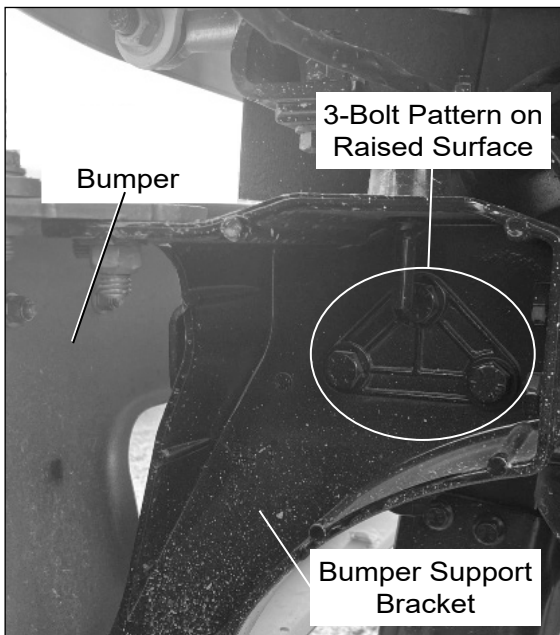

Figure 1 – Aluminum Bumper Support Bracket
- If the vertical side of the bumper support bracket has a raised molded surface around the triangular bolt pattern at the top, the bracket is an aluminum casting (refer to Figure 1).